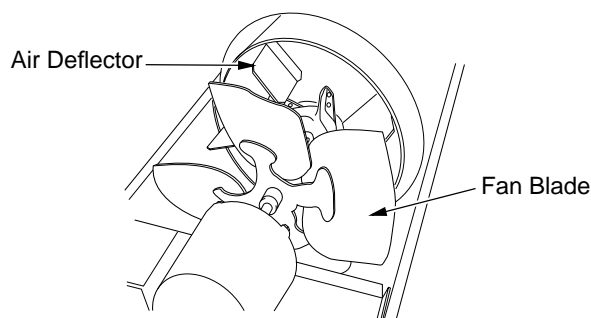

Figure 7 - Fan Blades and Air Deflectors
2. Clean fan blades and air deflectors with clean, soft cloth moistened with kerosene or solvent (see Figure 7).